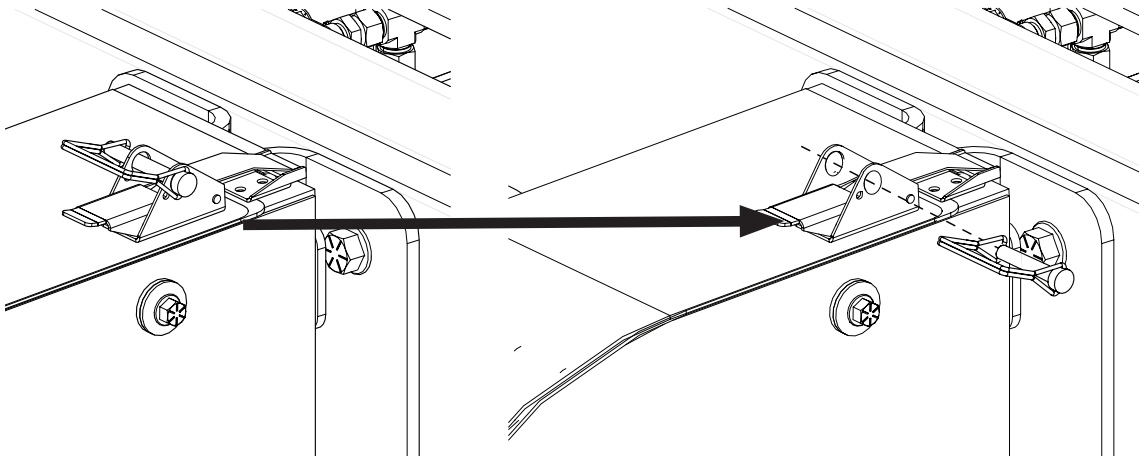

Figure 6: Locate the clamps. Remove and retain the cotter pin in the clamp. Open the clamp to free the cover.
1. On **Frame Mount** CNG systems, locate the clamps that hold the side covers on. Depending on the length of the tank, the number of clamps ranges from two to six. Remove and retain the cotter pin from the clamp and open the clamp (Figure 6). Do this on each clamp. The covers are now free from the assembly.